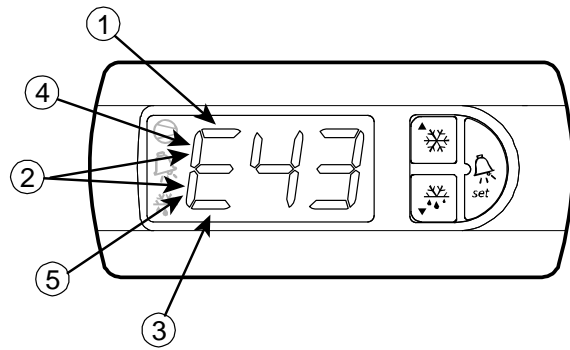

Fig. 8.3.4.1
- the parameter for the day is indicated by a segment (1 in Fig. 8.3.4.1) which appears together with the number of the event (t1,...t8) and is indicated by ① t1,... ① t8
- the parameter for the hours is indicated by a segment (2 in Fig. 8.3.4.1) and is indicated by ② t 1,... ② t8
- the parameter for the minutes is indicated by a segment (3 in Fig. 8.3.4.1) and is indicated by ③ t1,... ③ t8
① t1,... ① t8: defrost event day